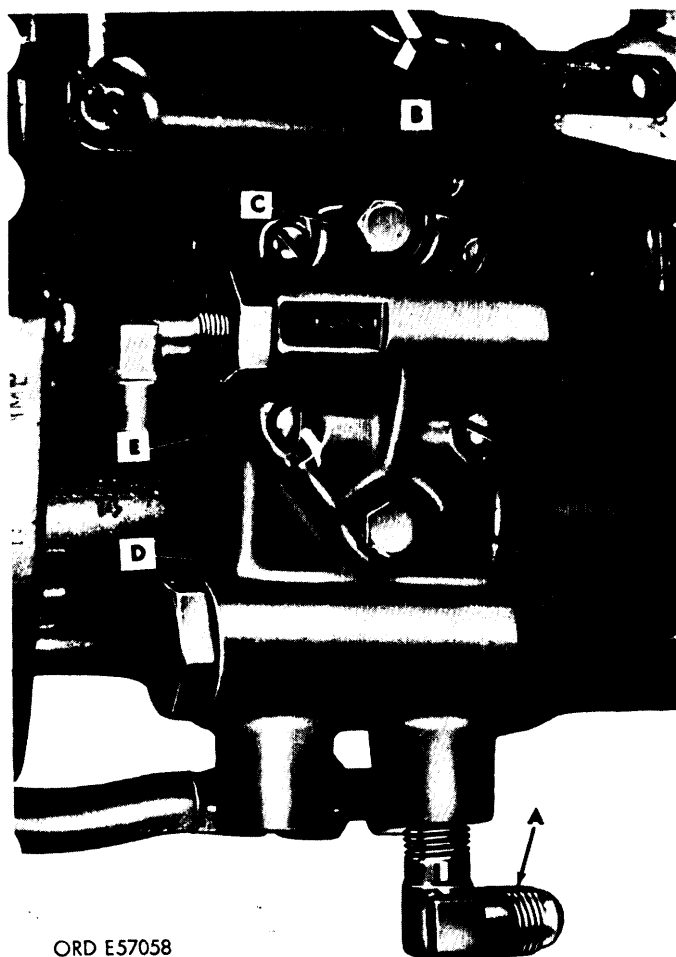

Figure 3-1. Removing fuel supply pump.
3-4. Removal of Fuel Supply Pump Assembly. Refer to figure 3-1. Remove two machine screws (B), lock-washers (C), and remove the fuel supply pump assembly (D). Remove and discard supply pump gasket (E).